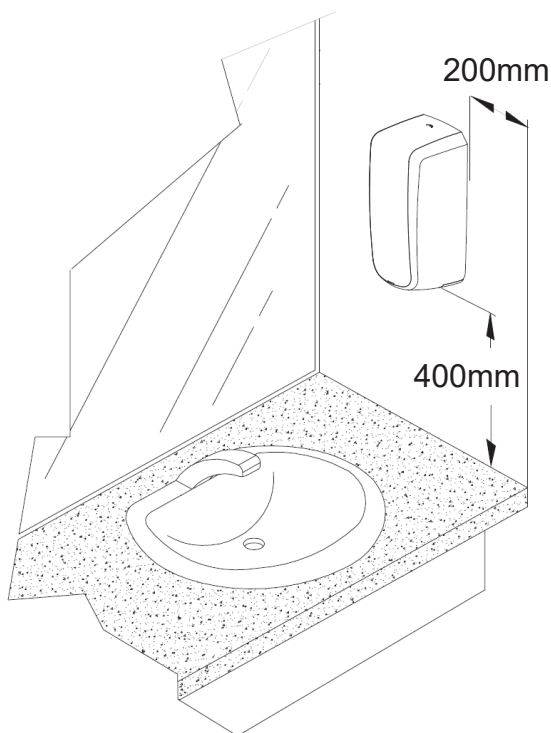

Fig. 1
2. Note the distance between dispenser & counter top should not be less than 400mm, see Fig.1